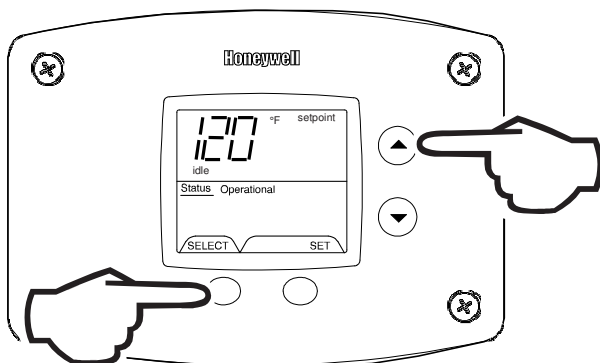

Fig. 68
7. 10 seconds after the last button press, the Water Heater Display will revert back to the current error code display. To exit Service Mode, either wait 30 seconds or press Temperature Up button and Select Button for 3 seconds (Fig. 68).